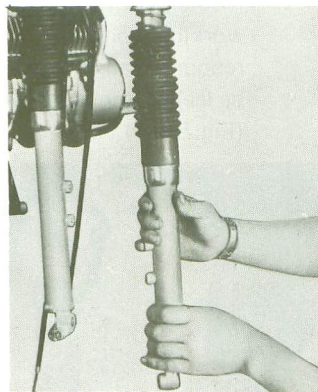

Fig.5-7-2
- (3) Draw the outer tube downward to remove the assembly. (Fig.5-7-2)